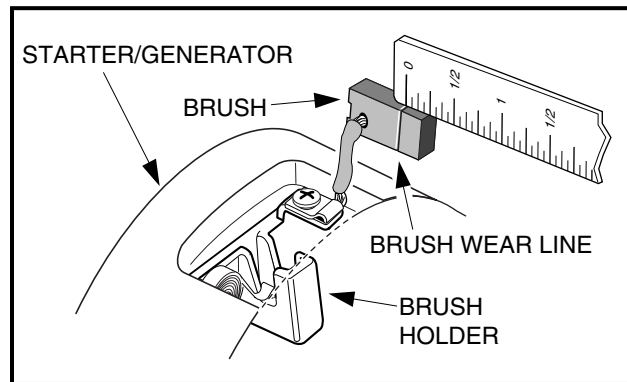

FIGURE 12-38
2. There is a wear line on the side of the brush. If the end of the brush is within 1/16 inch (1.6 millimeters) of the wear line, replace all four brushes (**Figure 12-38**).